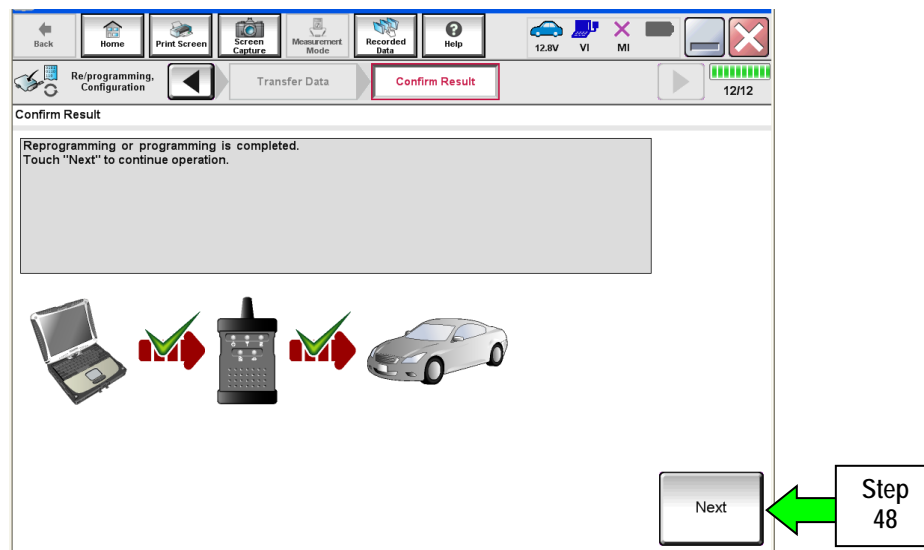

Figure 28
46. When the screen in Figure 28 displays, programming is complete.
NOTE: If the screen in Figure 28 does not display (indicating that programming did not complete), refer to the information on the next page.